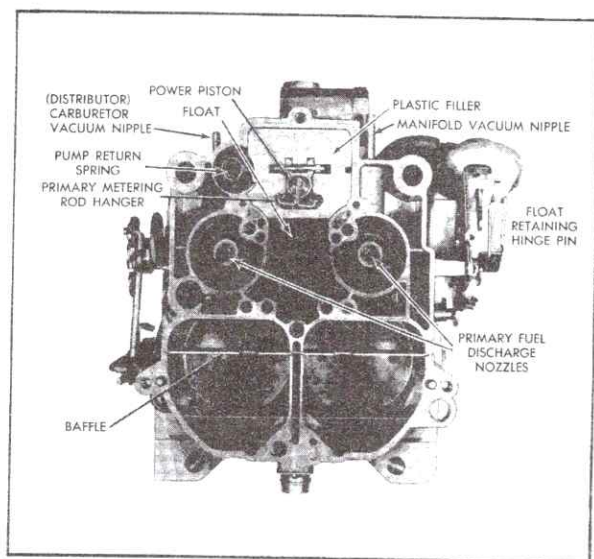

Fig. 6-87 Float Bowl Assembled
1. Remove pump plunger from pump well, Fig. 6-87.